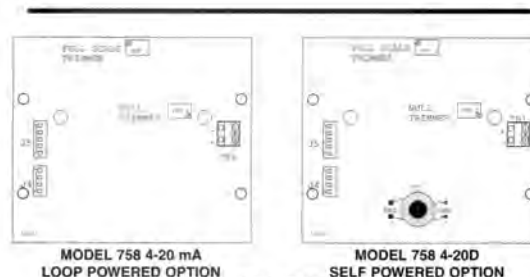

FIG. 2-7
- STEP 2 Neatly insert cable wires into the 758 Panel board's plus (+) and minus (-) TB1 terminal block connectors as shown in Fig. 2-7.